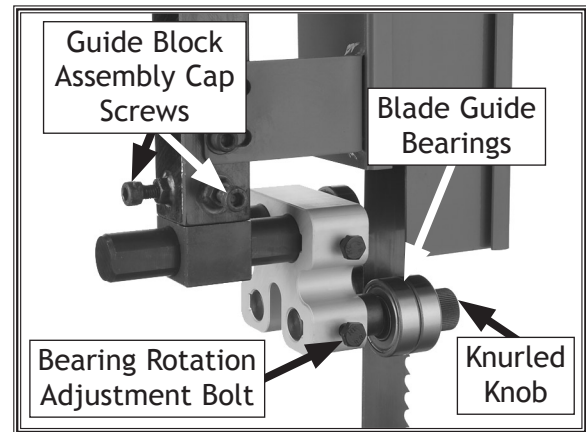

Figure 27. Upper blade guide controls (rear view).
3. Familiarize yourself with the upper blade guide controls shown in **Figure 27 & 28**.
3. Familiarize yourself with the upper support bearing controls shown in **Figures 27 & 28** on **Page 23**.